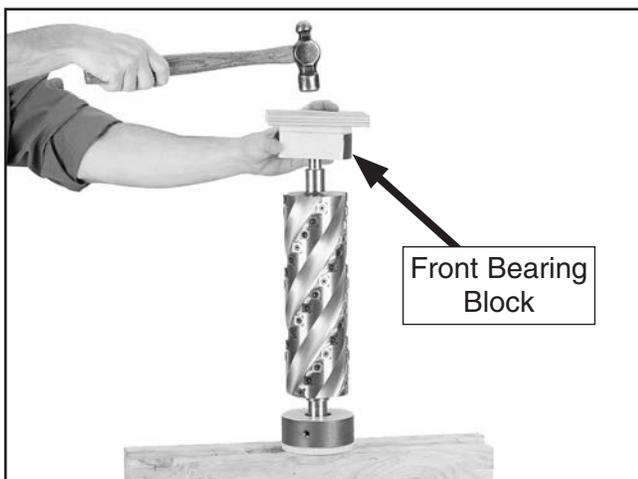

Figure 16. Re-installing front bearing block.
- Use a hammer and a scrap piece of wood to seat front bearing block onto cutterhead shaft, as shown in **Figure 16**. Tap front bearing block until it meets resistance.